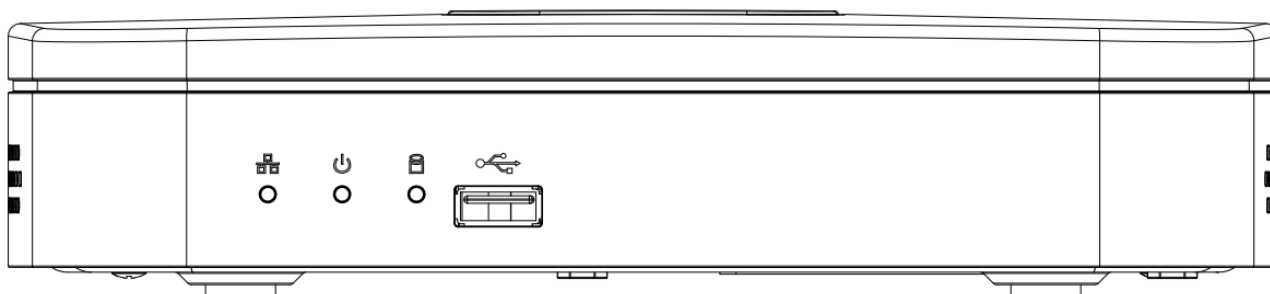

Figure 2-1
2.1.1 8ch Series The front panel is shown as in Figure 2-1.